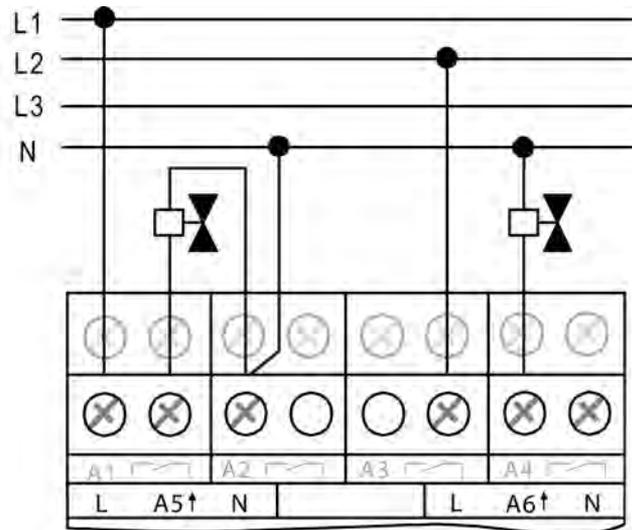

Figure 5: Electrical connection for electrothermal valve drives
- Connect electrothermal valve drives as shown in the wiring example (figure 5)
- i** The neutral conductor terminals (marking "N") next to the electronic switching outputs are intended exclusively as connection aids for the neutral conductors of the valve drives. The terminals are not connected in the room actuator to any voltage potential or any other connecting terminal (line terminal posts), and can thus be used optionally (figure 5).